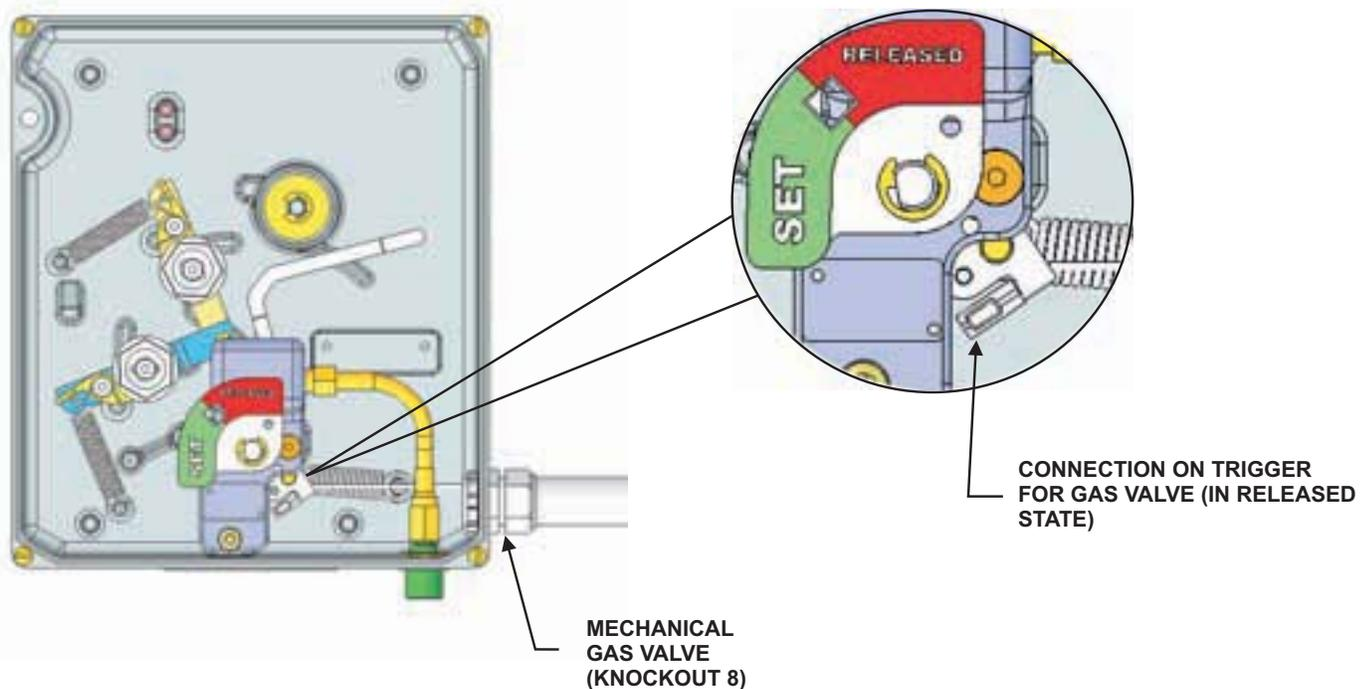

Figure 4-71. Cabling Gas Valve (Cam/Flag in 'Released' State)
4. Pull the cable back through so the crimp rests at the trigger (see Figure 4-71).